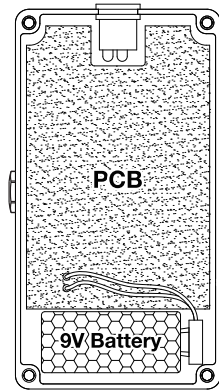

Figure 2
2. Buckle the 9V battery onto the buckle and load it into the product, as shown in Figure 2.